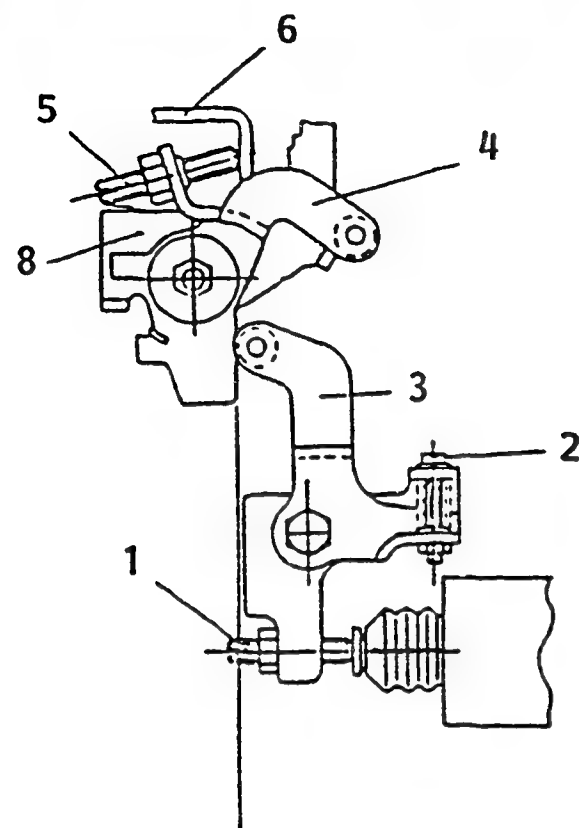

Fig. 45
1. Timer stroke adjustment (Fig. 45)
Formula for calculating (Fig. 45)
2. Adjustment of intermediate lever position (see Figs. 45 and 46)
3. Adjustment of CSD lever (see Figs. 45 and 46)